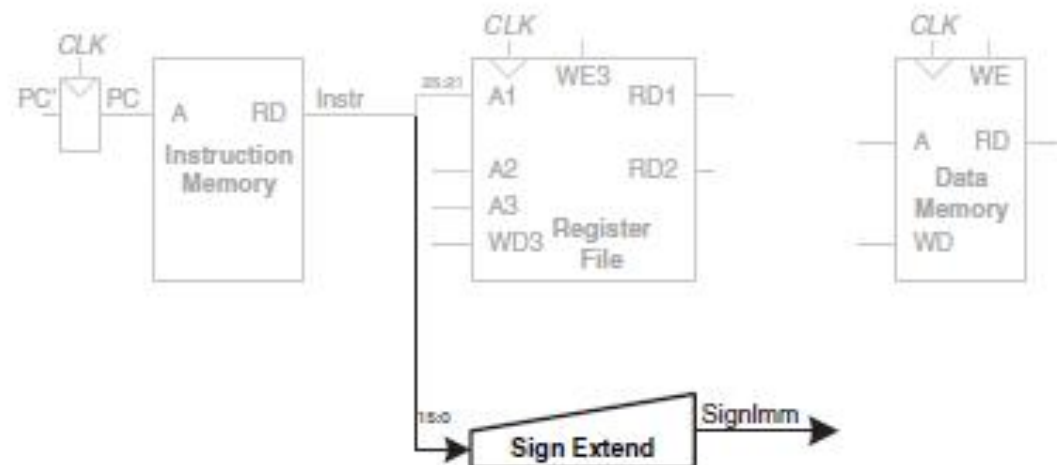

Figure 7.4 Sign-extend the immediate
- The lw instruction also requires an offset. The offset is stored in the immediate field of the instruction, Instr15:0. Because the 16-bit immediate might be either positive or negative, it must be sign-extended to 32 bits, as shown in Figure 7.4. The 32-bit sign-extended value is called SignImm.